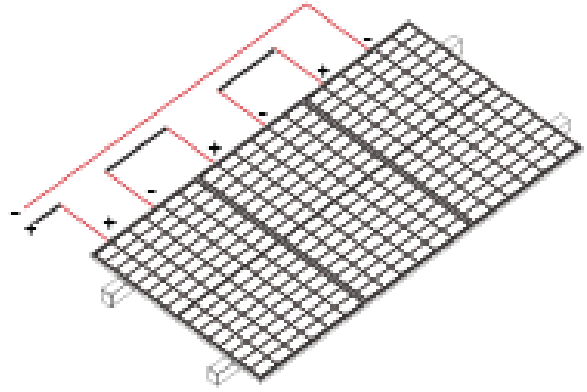

Figure 15: Connection in series
- It is not allowed to use different models of modules in the same solar PV system. When modules are connected in series, the voltage of every string shall not be higher than the maximum voltage of the system (as shown in Figure 15). Please refer to the national, regional or local specifications for details.